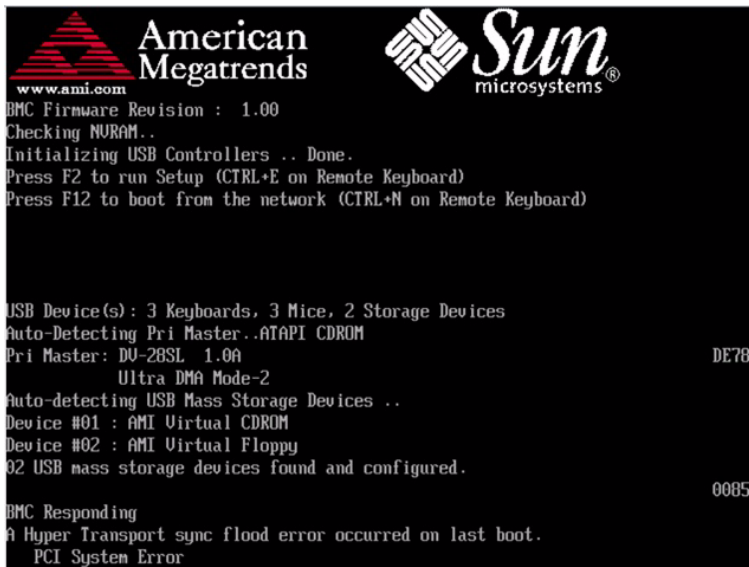

FIGURE E-5 Sample POST Screen, Previous System Error Listed
- POST reports of any previous system errors at the bottom of screen. See FIGURE E-5 for an example.